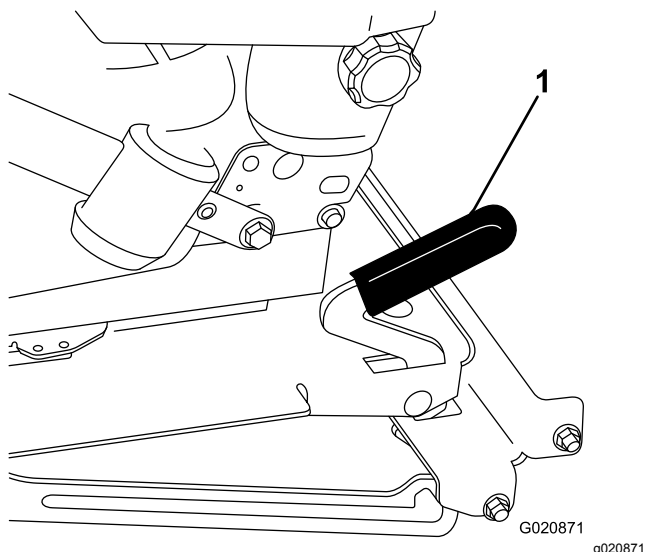

Figure 21
2. Pull the seat latch forward and lift up to unlatch the seat (Figure 21).